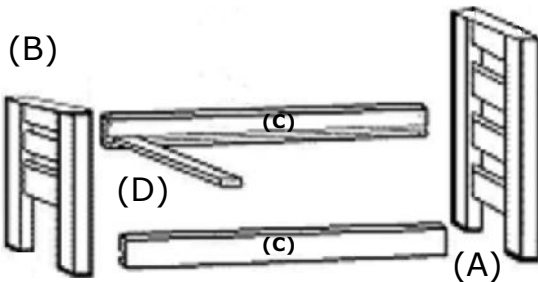

Figure 1
1. Loosely secure 4x bed fitting brackets (H) to bed ends (A & B) using 3x 1-1/4" screws (E) for each bracket, refer to **Figure 1** for marking locations) making sure to position brackets as shown in images of assemblies above. Tilt the screws slightly (5 degrees) towards the centre of the bed to allow clearance for a power driver. Brackets are kept loose until step 3 & 4 are completed, being loose allows for easiest installation.